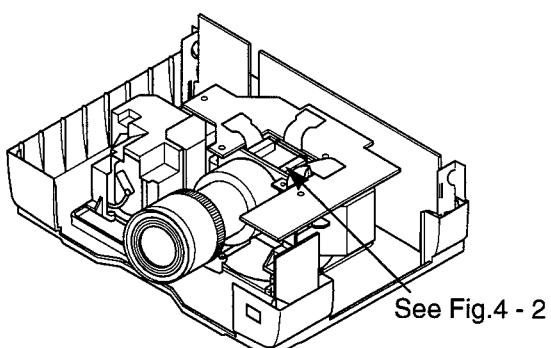

Fig.4 - 1
- ① Apply heat-running for 10 minutes or more before adjustment.
- ② Input a cross-hatch signal to the RGB input terminal with a timing signal of XGA VESA (60).
- ③ Project about a 40" size image and adjust H.PHASE so that the vertical lines of cross-hatch pattern are seen most clear.
- ④ Loosen 2 screws ④ of both the R and B panel's metal fittings. (See Figs.4 - 1 and 4 - 2.)
- (Note) Do not loosen screws ④ too much. If they are loosened too much, the convergence may drift when they are tightened.